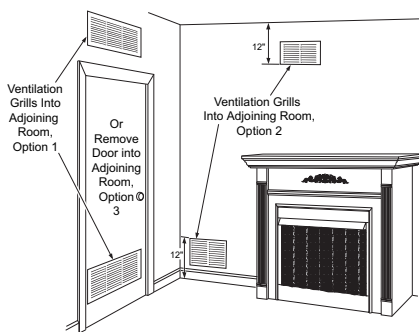

Figure 4 - Ventilation Air from Inside Building
This fresh air would come from an adjoining unconfined space. When ventilating to an adjoining unconfined space, you must provide two permanent openings: one within 12" of the ceiling and one within 12" of the floor on the wall connecting the two spaces (see options 1 and 2, Figure 4). You can also remove door into adjoining room (see option 3, Figure 4). Follow the *National Fuel Gas Code, ANSI Z223.1/NFPA 54, Air for Combustion and Ventilation* for required size of ventilation grills or ducts.
- where curtains, furniture, clothing, or other flammable objects are less than 36" from front or 42" from top of firebox; for side clearances see Figure 4, page 11
Example: The face of a mantel, bookshelf, etc. is made of combustible material and protrudes 3 1/2" from the wall. This combustible material must be 4" from the side of the fireplace cabinet (see Figure 4).